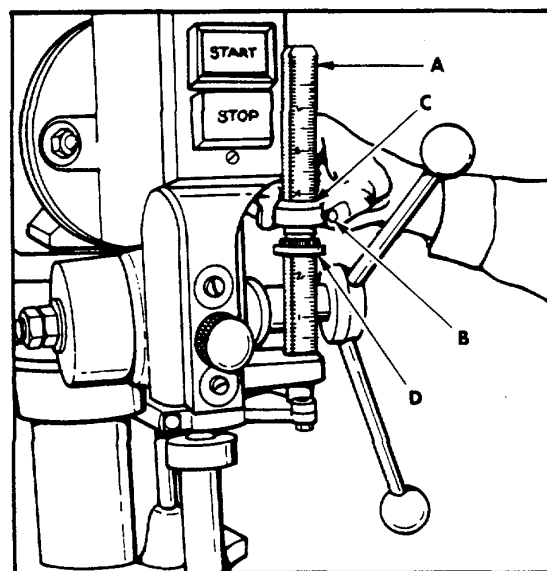

Figure 10
When drilling one or two holes to a predetermined depth, the calibrations on the face of the depth stop rod (A) Fig. 10, can be used.
1. Loosen thumb screw (B) fig. 10, and raise the locking sleeve (C). Turn the micro-nut (D) to the desired position on the stop rod (A).
2. Lower the locking sleeve (C) so it will engage micro-nut (D) fig. 10. Lock sleeve (C) in place with thumb screw (B) if drill press is operated in other than vertical position.
3. When locking sleeve (C) is in place on the micro-nut (D) fig. 10, the micro-nut cannot be turned. When a change in depth is required, the locking sleeve (C) must be raised, and while it is raised, turn the micro-nut (D) the necessary calibration marks. Each mark represents .002". Then lower the locking sleeve (C).